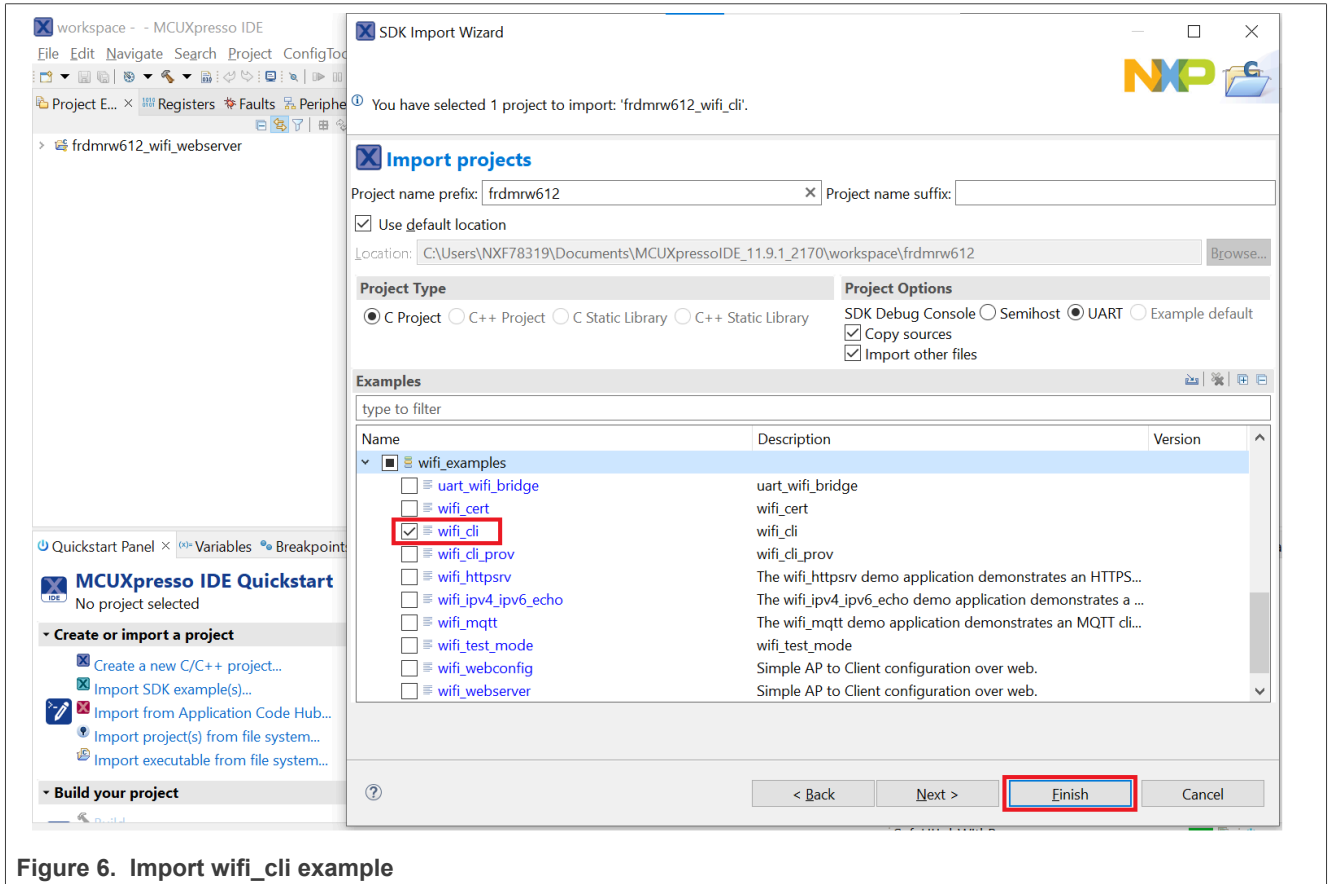

Figure 6. Import wifi_cli example
- For example, select *wifi_examples* > *wifi_cli* and click the **Finish** button to import the selected example into the workspace (Figure 6)